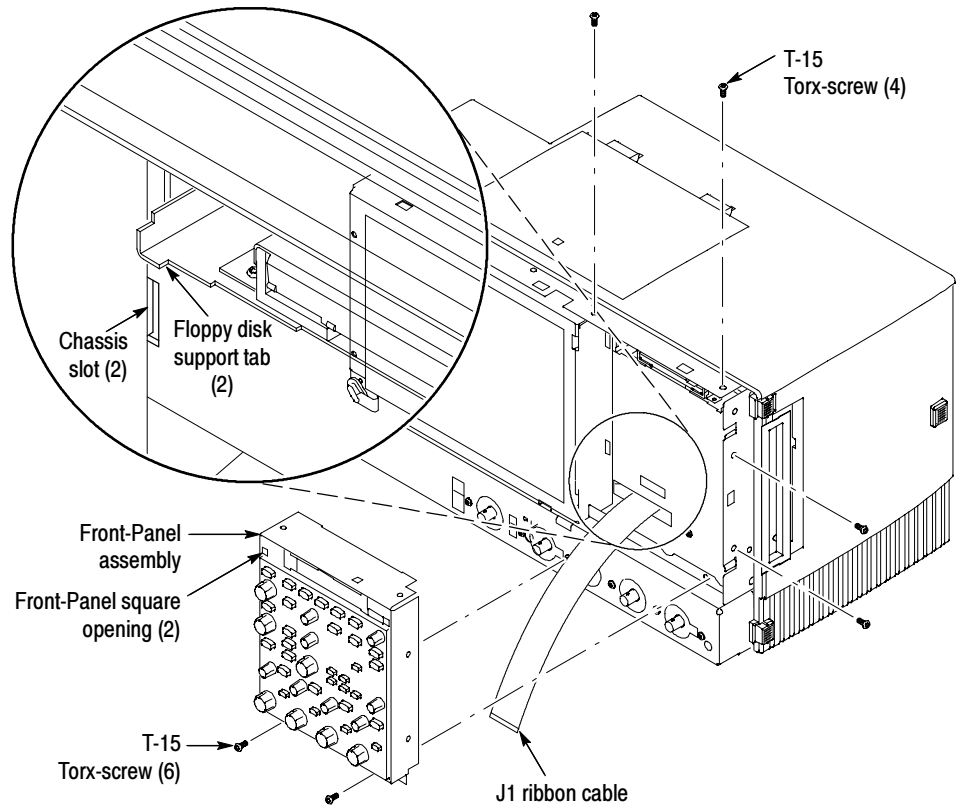

Figure 9: Front-Panel assembly removal
2. Remove the Front-Panel assembly, see Figure 9 on page 15.
- c. Insert the two floppy disk support tabs into the Front Panel square openings. Both left Front-Panel tabs must go into the chassis slots. See Figure 9 on page 15.